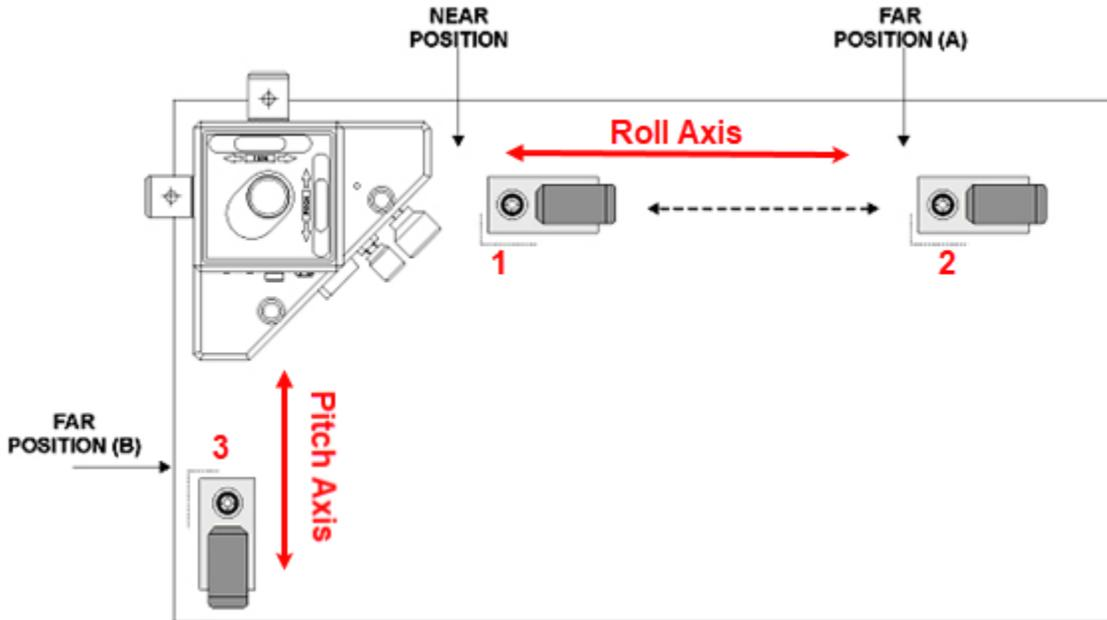

Figure 19 – 3-Point Buck-In
Be sure to use only *Pitch Axis* adjustment knobs that face the target when tilting the laser beam (in the setup displayed in Figure 19, this would be the PITCH adjustment).
1. **Zero all three targets on the near footprint (1)– see Figure 19.**